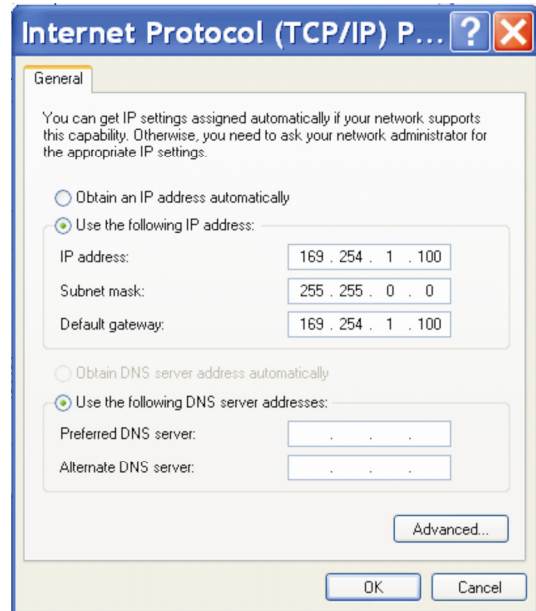

Figure 2: Internet protocol
6. Set the IP setting of the laptop computer (see Figure 2):